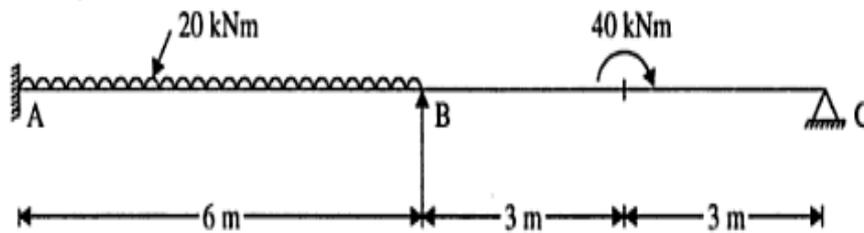

Fig.3
23. a) Analyse the continuous beam shown in Fig.3 by stiffness method. Assume that the flexural rigidity for all members is the same. Draw bending moment diagram.